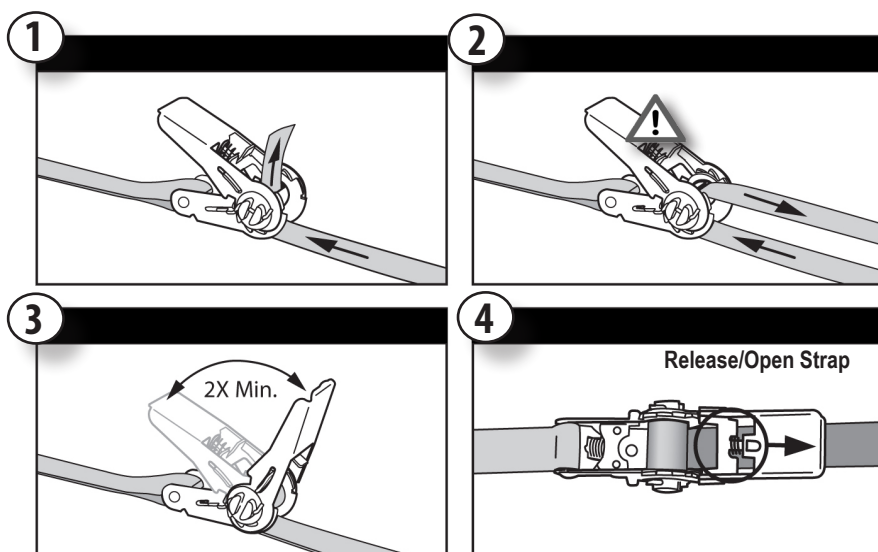

Figure 20
STEP 11: With your treestand installed as outlined previously, you must now install the ratchet strap (refer to Figure 15). While still safely attached to the tree using your full-body fall arrest harness lineman belt, gently wrap the ratchet strap around the tree trunk and thread it as shown in Figure 20. Be careful the strap is not twisted.